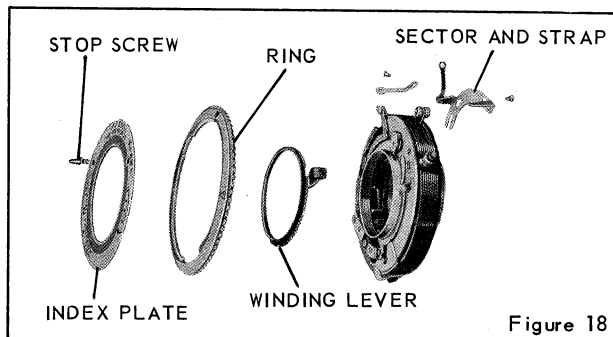

Figure 18
| | Excessive retard sector travel. | Swedge the speed control RING, figure 18, at the area controlling the slow speed. (See figure 17.) |
| | The winding lever may be binding around the central opening of the cover or on the speed INDEX PLATE, figure 18. | Replace the winding lever. Try lubricant. |
2. Focusing mount STOP SCREW, figure 18.